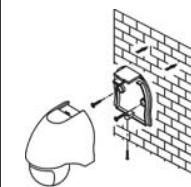
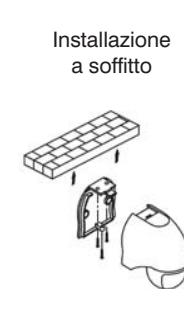

FIG. 3
FIG. 4
- Altezza di montaggio consigliata: **a parete** 1,8 ÷ 2 m da terra (FIG. 3); **a soffitto** 2,5 ÷ 4 m da terra (FIG. 4).
- Height of installation recommended: for **wall mounting** 1.8 ÷ 2 m above the ground is needed (FIG. 3); for **ceiling mounting** 2.5 ÷ 4 m above the ground is required (FIG. 4).